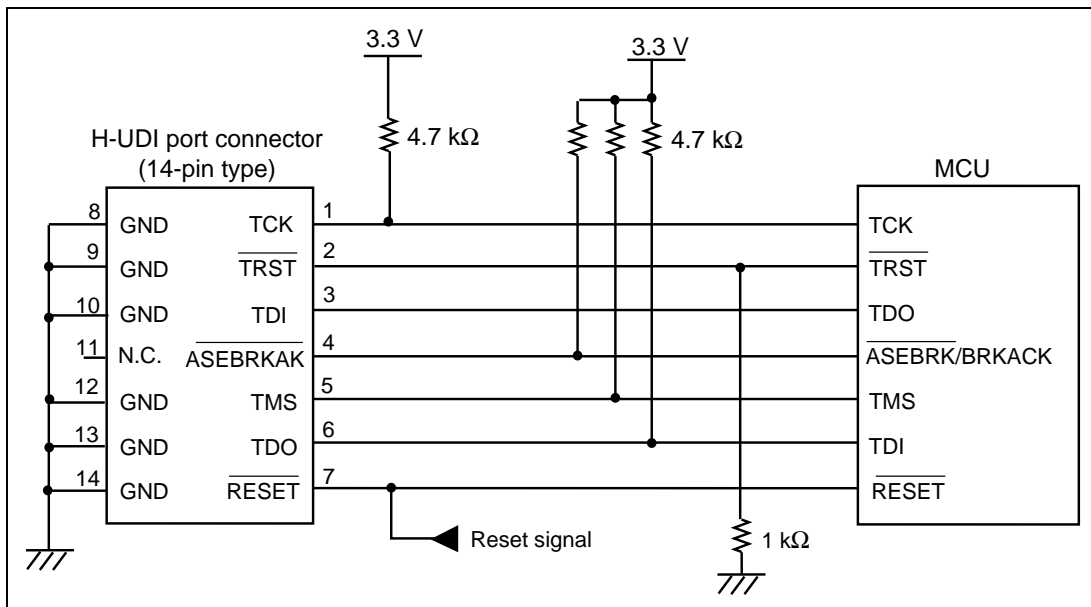

Figure 4.2 Recommended Circuit for Connection between the H-UDI Port Connector and the MCU when Using the Emulator (14-Pin Type)
Figure 4.2 shows a recommended circuit between the H-UDI port connector (14 pins) and the MCU.
4. The resistance values shown in figure 4.2 are recommended.